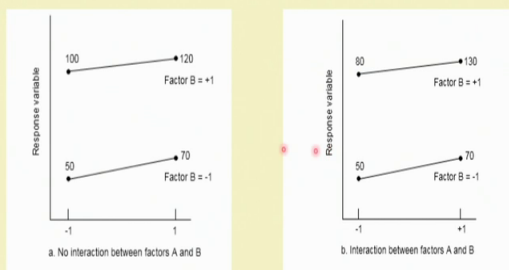

Figure 4: Interaction between factors
- Suppose, there are two factors, A and B, considered to be influencing a response variable. As shown in **Figure 4(a)**, the functional relationship between the response variable and factor A remains same regardless of the level of factor B. Hence, there is no interaction between the factors A and B. In **Figure 4(b)**, a different situation is depicted. The level of factor B influences the relationship between the response variable and factor A. Hence, there exists interaction between factors A and B.